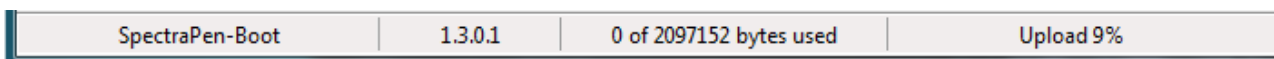

Fig. 41 Firmware update running.
- The bottom bar indicates the upload progress (Fig. 41)